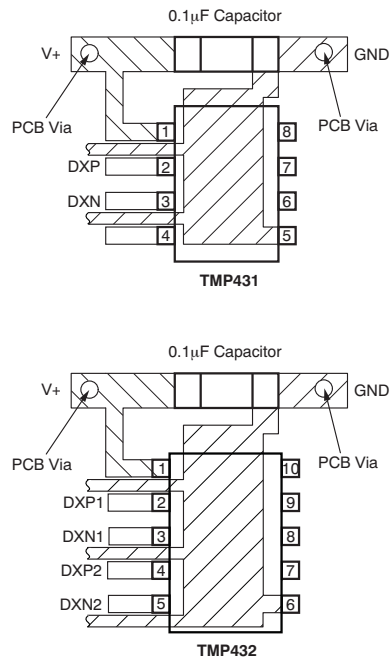

Figure 26. Suggested Bypass Capacitor Placement
4. Use a 0.1- μ F local bypass capacitor directly between the $V+$ and GND of the TMP43x. Figure 26 illustrates the suggested bypass capacitor placement for the TMP43x. This capacitance includes any cable capacitance between the remote temperature sensor and TMP43x.